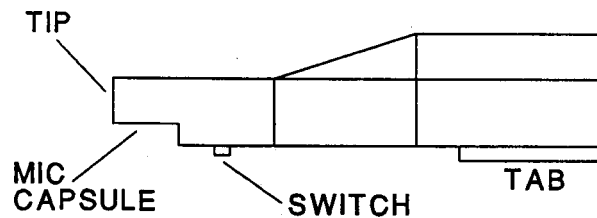

Fig. 4. Unscrew mic from plate.
1. Unscrew the mic from the plate (Fig. 4).